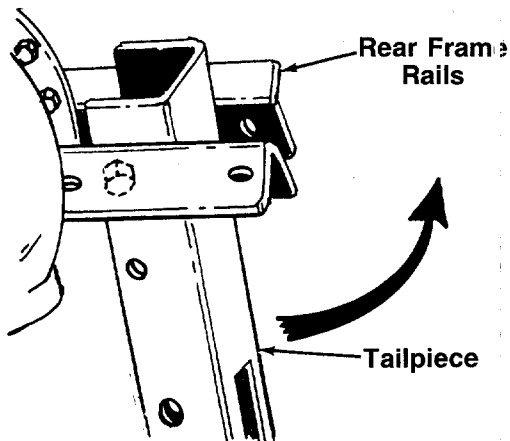

FIGURE 3.
- W (1) Wheel Yoke Assembly
- X (1) Right Hand Tine Assembly
- Y (1) Left Hand Tine Assembly
- Z (1) Right Hand Handle
- AA (1) Left Hand Handle
- AB (1) Handle Panel
- AC (2) Wheels
- AD (1) Tine Shield Extension (Not Shown)
3. The tailpiece is partially assembled. Pivot the tailpiece upward until the holes line up with the rear frame rails. See figure 3.